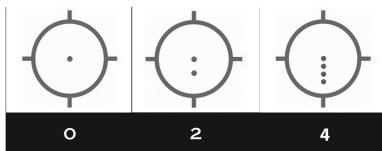

Fig. 1 EXPS3 reticle options
The EXPS3 is offered with one of the following (3) reticle options (see fig. 1):
- 2- 65 minute ring with vertical and horizontal stadia and (2) 1 MOA aiming dots
- 4- 65 minute ring with vertical and horizontal stadia and (4) 1 MOA aiming dots